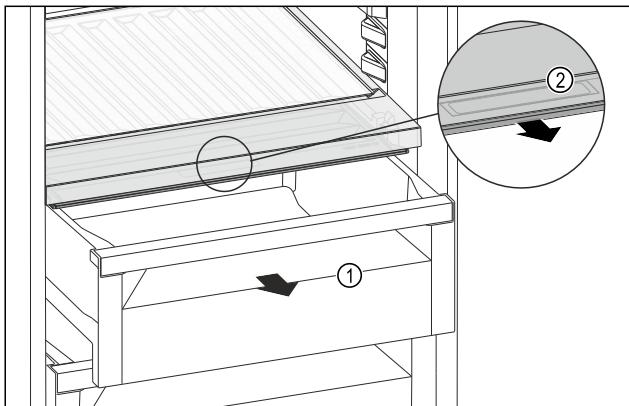

Fig. 124
- Pull out the drawer Fig. 124 (1).
- Grasp the recessed grip Fig. 124 (2) on the compartment lid and pull the compartment lid forwards at the same time.